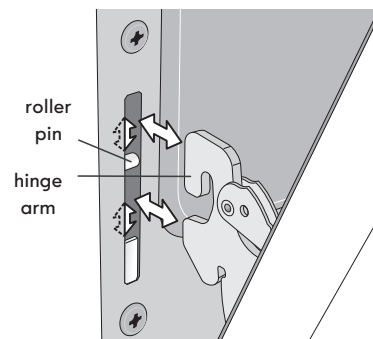

Figure 23: Hinge pin locations
2. Holding the oven door at the same angle as the removal position, seat the hook of the hinge arm over the roller pins located on each side of the oven door frame (Figure 23). The hook of the hinge arms must be fully seated onto the roller pins.